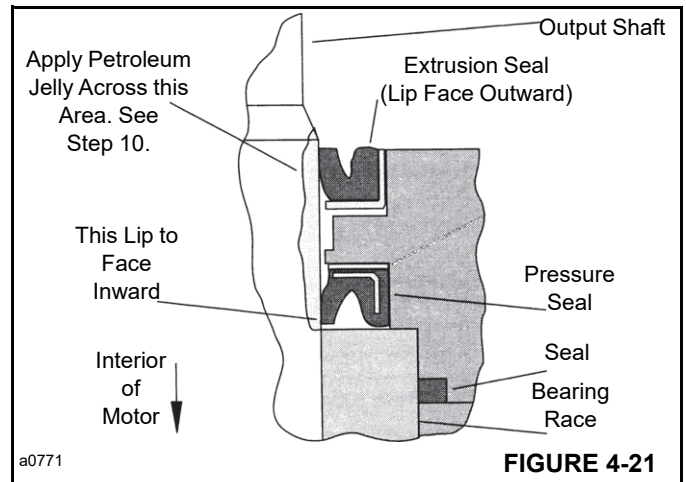

FIGURE 4-21
10. Before installing the flange and seal assembly over shaft (9, Figure 4-14), place a protective sleeve or bullet over the shaft. Then lubricate the space between exclusion seal (2) and pressure seal (5), as well as the lips of both seals (see Figure 4-21).